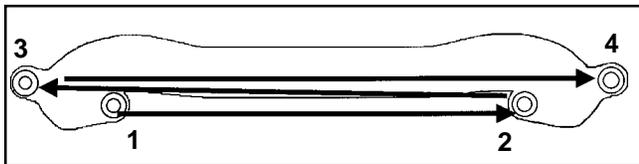

**Figure 11-50. Setting Ignition Module Air Gap.**
- Insert a **0.30 mm (0.012 in.)** flat feeler gauge between the magnet and the ignition module. See Figure 11-50. Loosen the screws enough to allow the magnet to pull the module down against the feeler gauge.